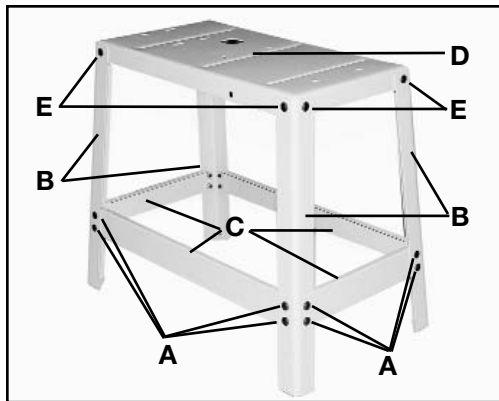

Fig. 1
Begin the assembly of the stand (Fig. 1) by inserting sixteen 5/16-18 x 5/8" carriage bolts (A) (eight of which are shown) through the holes in the legs (B) and the holes in the short and long tie bars (C). Secure this part of the assembly by attaching 5/16" hex nuts from the inside. Place the shelf (D) on the inside of the legs, and insert eight 5/16x18 carriage bolts (E) through the legs (B) and shelf (D). Secure the shelf with flat washers, lock washers and 5/16" hex nuts from the inside. Partially tighten the hardware at this point.